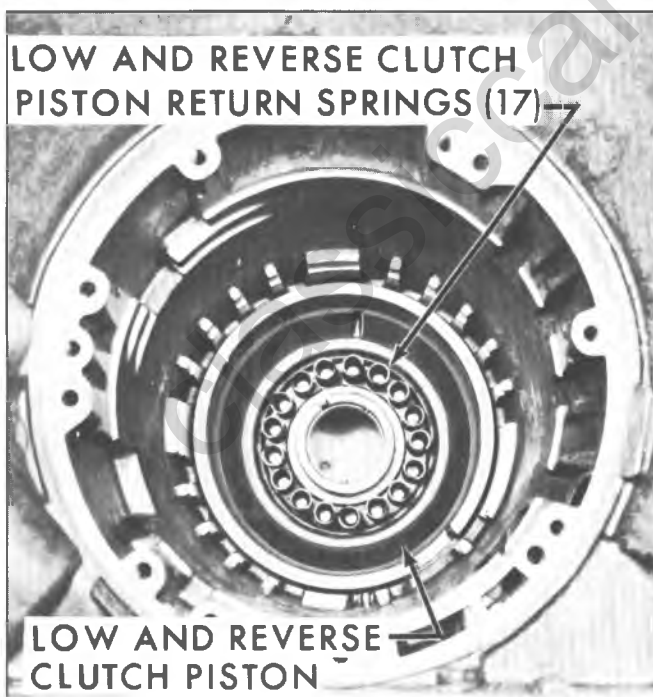

Fig. 46M--Low and Reverse Clutch Piston Springs and Piston
22. Remove seventeen (17) piston springs from piston (fig. 46M).